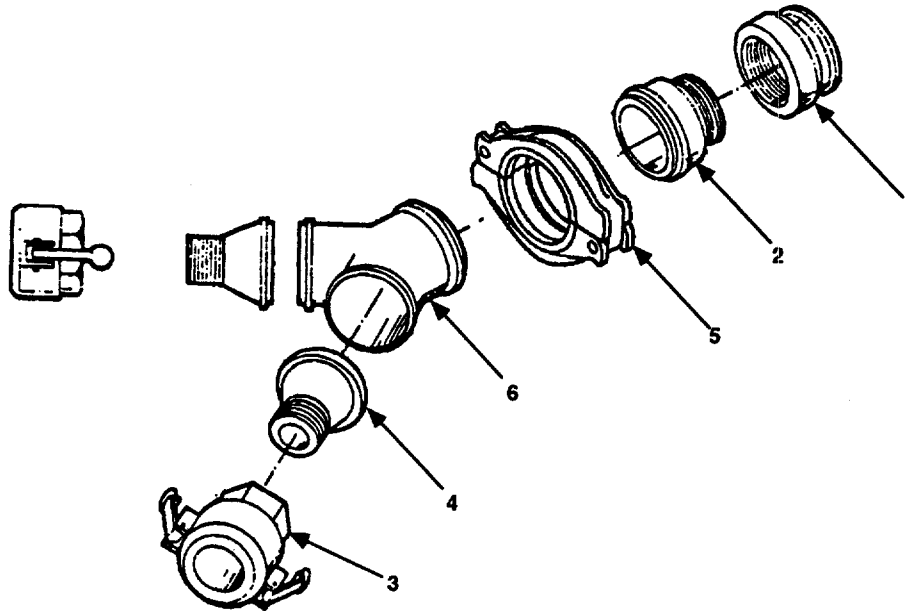

Figure 4-2. Reducer Y-Connection Disassembly.
- Remove quick-disconnect male coupling half (Figure 4-2, 1) from grooved pipe coupling fitting (2).
- Remove two female quick-disconnect couplings (3) from reducer pipe fittings (4). Discard gaskets of female quick-disconnect couplings (3).
- Remove three grooved-end pipe quick disconnect coupling clamps (5) (paragraph 2.3.3.1).
- Remove two reducer pipe fittings (4) from Y-fitting (6).
- Remove Y-fitting (6) from grooved pipe coupling fitting (2).
- Inspect grooved-end pipe quick disconnect coupling clamps (6) for cracks, bends, damage, or ripped, torn, sliced, or damaged gasket.
- Inspect two female quick-disconnect couplings (3) for cracks, holes, broken or missing cam arms, or damage.
- Inspect quick-disconnect male coupling half (1), grooved pipe coupling fitting (2), two reducer pipe fittings (4), and Y-fitting (6) for corrosion, cracks, holes, or damage.